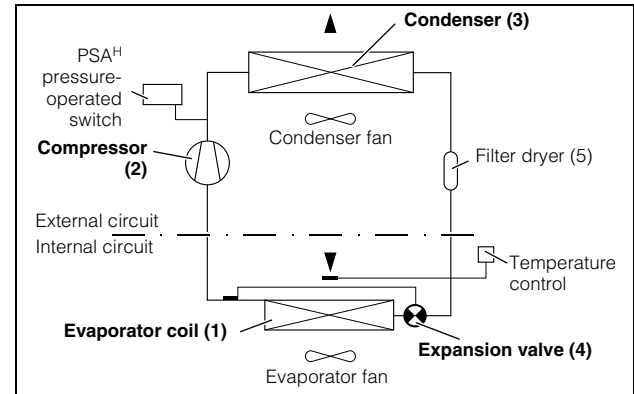

Fig. 2: Cooling circuit
The cooling unit (compression refrigeration system) is comprised of four main components (see fig. 2): the evaporator (1), the refrigerant compressor (2), the condenser (3), and the control or expansion